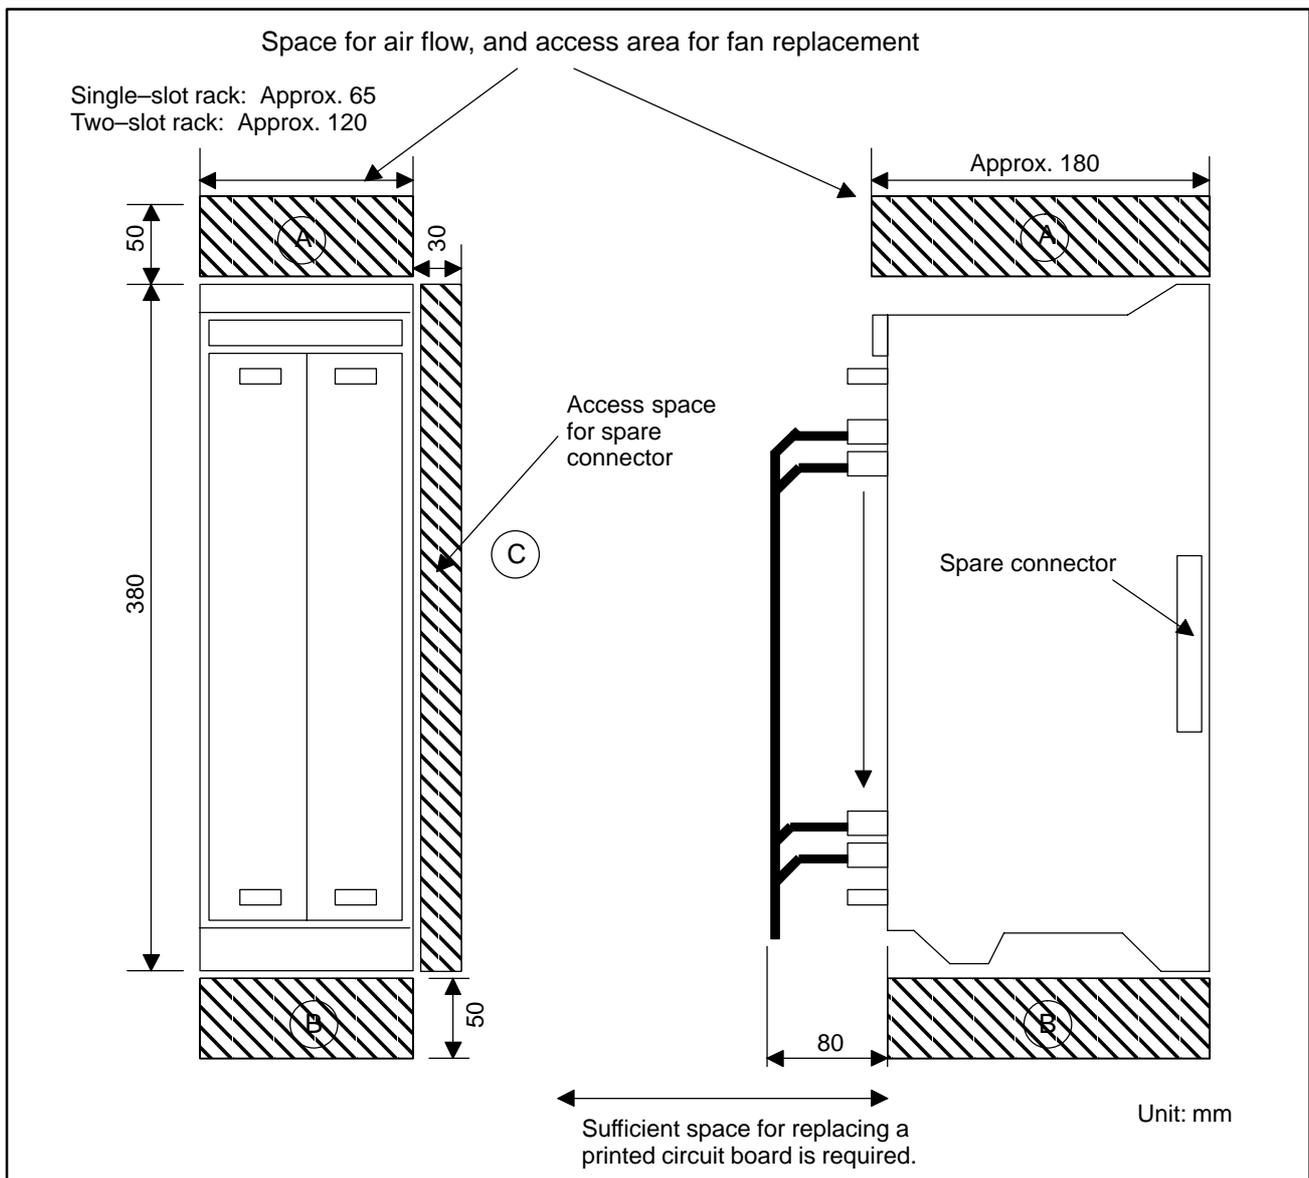

Fig. 3.6.1
The spaces shown in Fig. 3.6.1 (areas (A) and (B)) are always required to ensure smooth air flow.